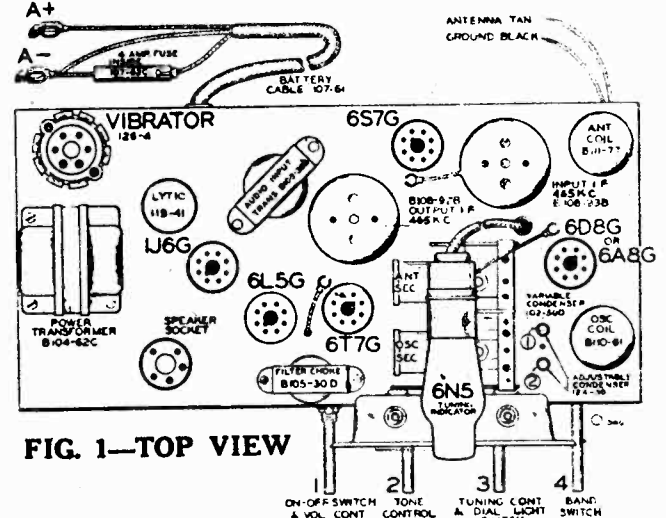

FIG. 1—TOP VIEW
These I.F. transformers have two adjustments, both of which are accessible from the top of chassis (see top view—Fig. 1, page 2).
- (a) Set external oscillator to 1720 K.C. and adjust broadcast oscillator trimmer to resonance. (Adjustment number 2; see top view of chassis, Fig. 1).
- (a) Move dial pointer to 17 megacycles and adjust short wave oscillator trimmer (Adjustment number 1), to resonance; (see Fig. 1, top view).